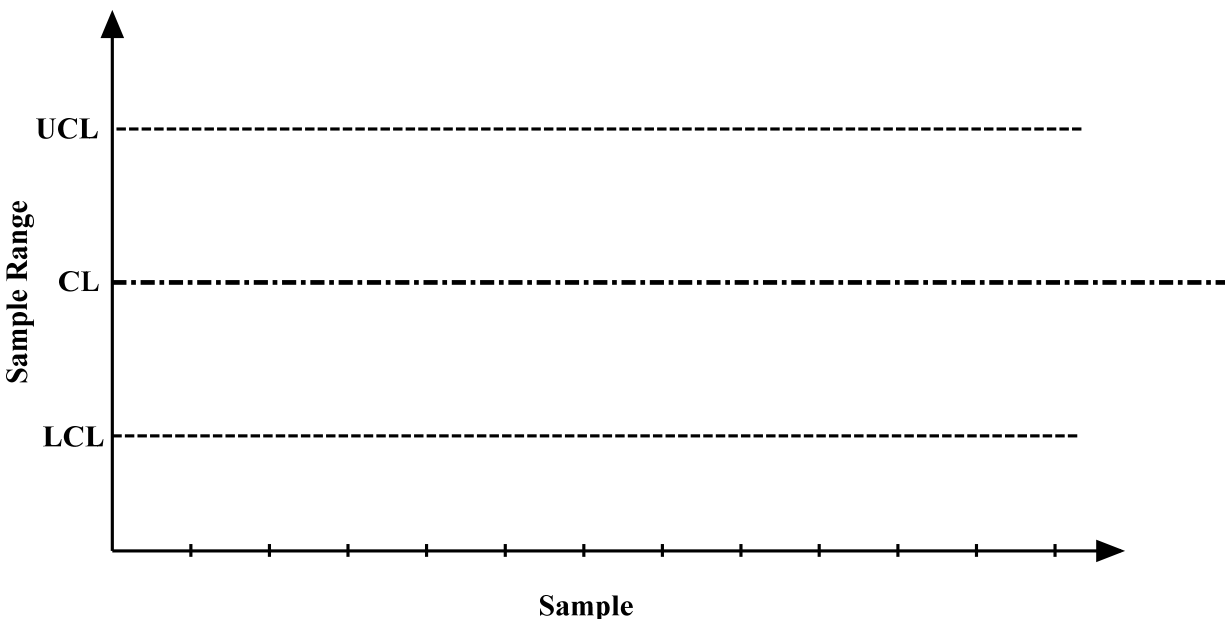
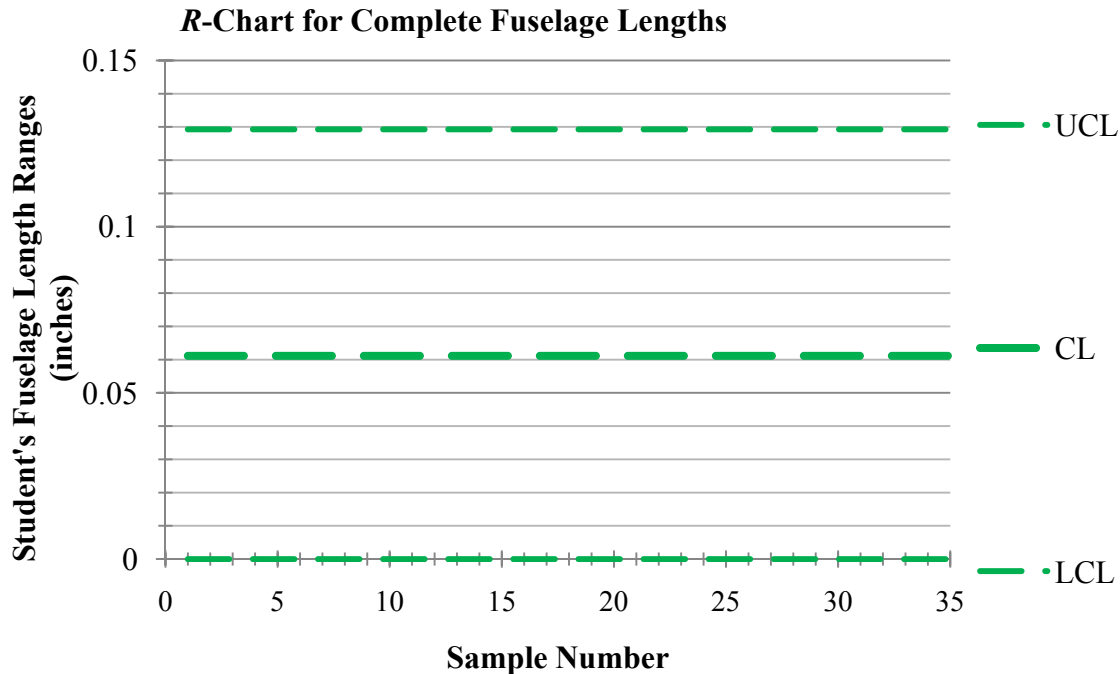

Figure 16.2.5: A general example of an *R*-Chart
Figure 16.2.6: The R -Chart for the sample range of lengths of completed fuselages from the Boeing 787 model activity
Figure 16.2.5 is an example of an *R*-Chart similar to the one Bob and Molly use to evaluate the range of trails lengths of the completed fuselages. Notice that the *R*-chart looks similar to the \bar{x} -Chart. There is a Lower Control Limit (LCL), a Center Line (CL), and an Upper Control Limit (UCL). However, these values will not be the same as the LCL, CL, and UCL for an \bar{x} -Chart, you use different values and a different calculation processes for an *R*-Chart.
Just as Bob and Molly have an *R*-Chart to evaluate the variability within samples, there is an *R*-Chart for the modeling of completed fuselage assembly; See Figure 16.2.5.
Notice the values of the Upper Control Limit (UCL), Center Line (CL), and the Lower Control Limit (LCL) in Figure 16.2.6; these are difference values from the UCL, CL, and LCL of the \bar{x} -Chart (see Figure 16.2.1).
Figure 16.2.6 is the example pooled class data from for complete Boeing 787 fuselages from Table 16.2.3 plotted onto the *R*-Chart for the sample range of lengths of completed fuselages from the Boeing 787 model activity (Figure 16.2.5).
What does this mean about the example class data's assembly process? There is a wide variability between trials in a sample. Therefore, the process variability is not stable and the assembly process is out of statistical control. Molly and Bob probably would have stopped the fuselage assembly to evaluate the process sometime around Sample 3 or Sample 4. The probability of being below the LCL or above the UCL is small (1% in each case). In Figure 16.2.6 we see that there are a lot of samples above the UCL even though the probability of being above the UCL is 0.01 (1%) there is a lot of variability between trials within the first few samples indicating and that there may be issues with the assembly process.
Q5. Using the *R*-Chart in Figure 16.2.5 (see Worksheet 5), plot the class ranges of the sample lengths of completed fuselages one at a time and determine if the class's assembly process is ever out of statistical control. If it is, at what sample in the assembly process does this occur? Why do you